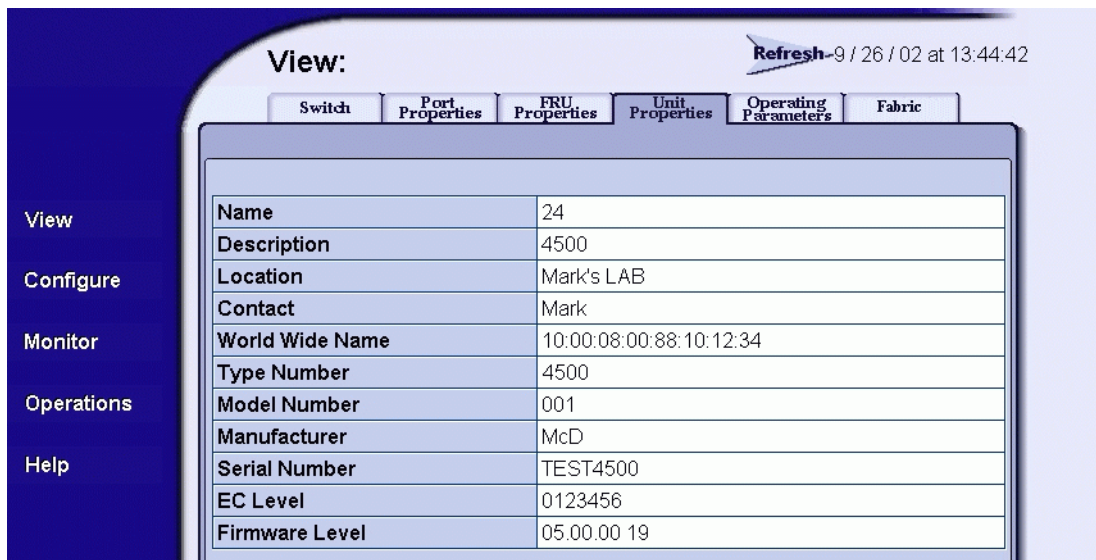

Figure 4-39 View Panel (Unit Properties Page)
1. When the SANpilot interface opens, the *View* panel and *Switch* page appear as the default. At the *View* panel, click the *Unit Properties* tab. The *Unit Properties* page displays (Figure 4-39).